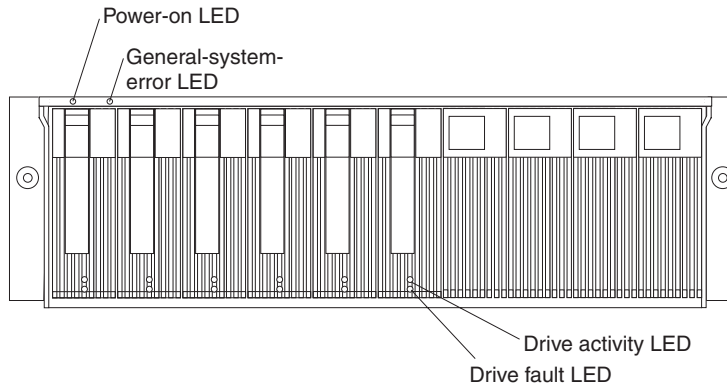

Figure 6. Storage server LEDs (front)
- Figure 6 on page 30
Each drive CRU has two LEDs, which indicate the status for that particular drive. For information about the drive LED operating states and descriptions, see Figure 6 on page 30 and Table 3 on page 30.